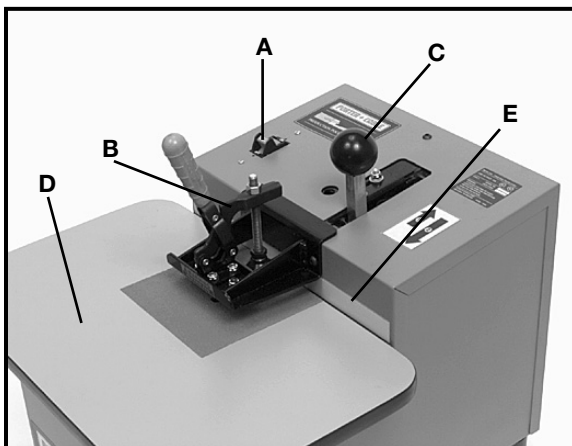

Fig. 2
4. Familiarize yourself with all features and controls as shown in Fig. 2.